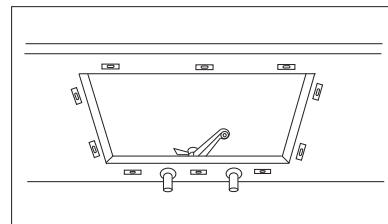

Figure 4
5. Locate and drill holes on the underside of the countertop, approximately 1" from edge of the sink to be installed. Holes should be evenly spaced approximately 6" to 8" apart starting from every corner as shown in Figure 4. It is recommended to install a faucet at this point before installing the sink.